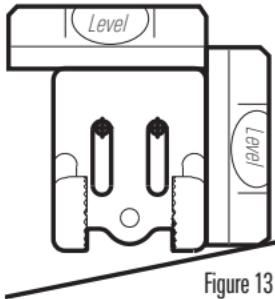
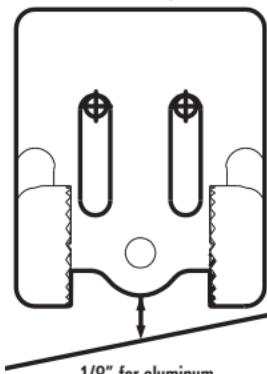

Figure 13
Figure 14
2. Hold the mounting bracket against the transom of the boat in the location you have selected (Figure 13). Align the bracket horizontally, using the level. Make sure that the lower screw hole protrusion does not protrude past the bottom of the hull, and there is at least  $1/4"$  clearance between the bottom of the bracket and the bottom of the transom for fiberglass boats, and  $1/8"$  clearance for aluminum boats (Figure 14).